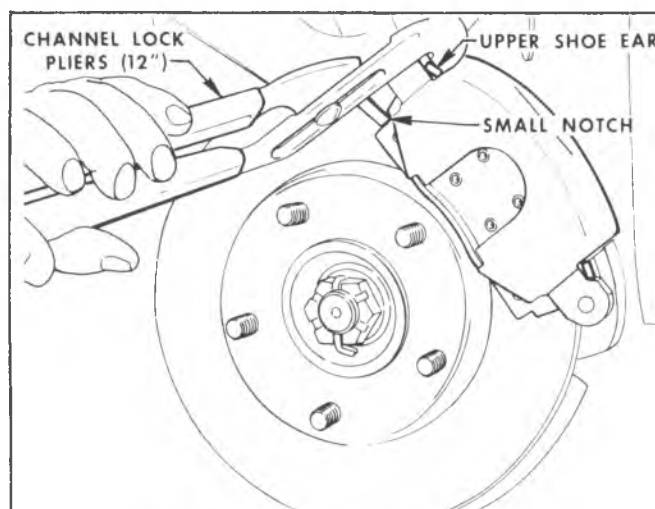

Fig. 5-30-Clinching Outboard Shoe
9. Clinch upper ears of outboard shoe by positioning channel lock pliers with one jaw on top of upper ear and one jaw in notch on bottom of shoe opposite upper ear (fig. 5-30).